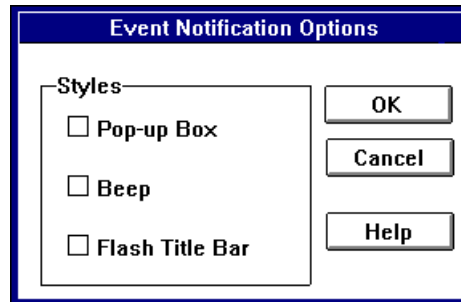

Figure 4-8. Event Notification Options Dialog Box
- 2 Click the **Notification** button to change the way in which you are alerted of event notifications. The Event Notifications Options dialog box appears, as shown in Figure 4-8. Select one or more of the available options, then click **OK** to save these settings.